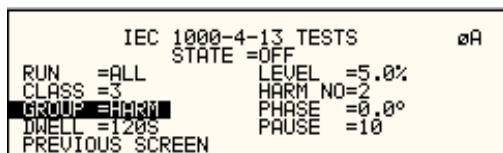

Figure 9-25: IEC 61000-4-13 Harmonics
If the Harmonics group is selected, the screen will appear as shown in Figure 9-25. The screen has the following parameters that are unique to the group:
7. To run an individual range, applicable for sweep and individual harmonics only, the desired range and the RUN RANGE mode must be selected prior to the start of the test. In case the harmonics group is selected, RUN RANGE will run the harmonics from the second harmonics to the harmonics number specified by the HARM NO field. See Figure 9-25.